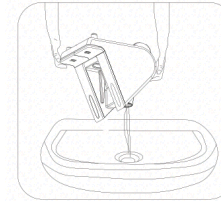

Fig. 21
- After using, remove the water tank from the body, dump the water in the water tank. Fig.21.